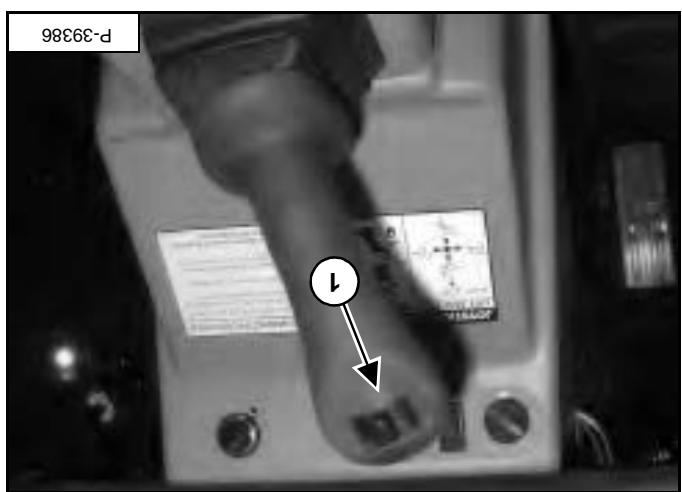

Figure OI-95
Pressing the switch (item 1) [Figure OI-95] to the right will side-shift the trencher to the right.
Pressing the switch (item 1) [Figure OI-95] to the left will side-shift the trencher to the left.